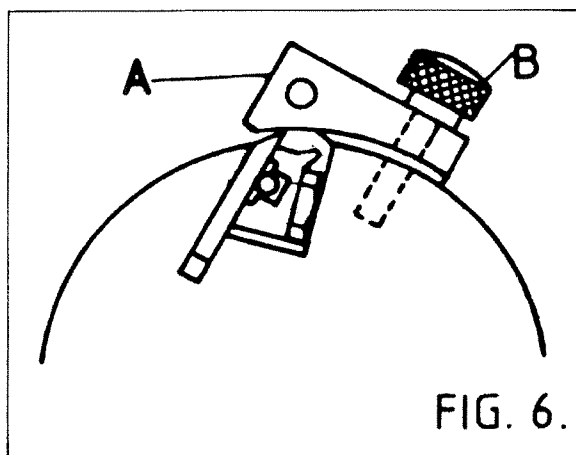

FIG. 6.
2. Turn the cutterblock to approximately the position shown in FIG. 6 and loosen the 5-M12 hexagon head screws, carefully remove knife from cutterblock.
3. To re-set the knives the cutterblock should be in the approximate position as shown in FIG. 6. Place knife in between wedge and cutterblock with the blade drawn forward slightly.
4. Carefully secure the knife setting device 'A' FIG. 6 to the cutterblock with the two knurled locking screws 'B' as shown in FIG. 6.
5. Whilst turning these locking screws 'B', FIG. 6, knife will be lowered to correct setting which is reached when knurled screws are locked in position and knife just touches knife setting device.